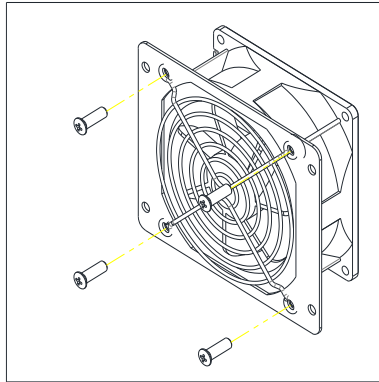

Figure 8-3 Replace cooling fans
3. Use a No.2 Phillips head screwdriver to remove the 4 screws fixing every fan. (Figure 8-3)